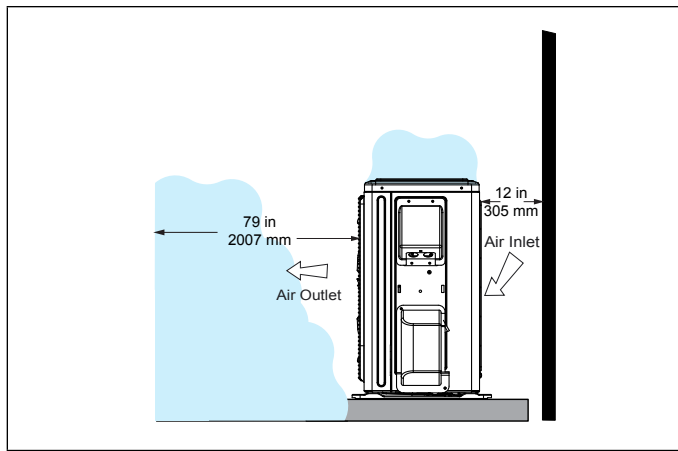

Figure 17. Outdoor Unit Air Flow Obstructed by Snow
- In heavy snow areas, do not place the unit where drifting will occur as illustrated in "Figure 17. Outdoor Unit Air Flow Obstructed by Snow"